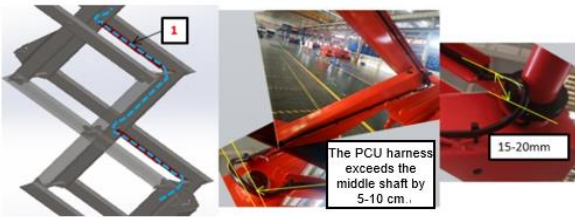

Fig. 4.25 Installation of second layer pipeline
layer inner frame, as shown in Fig. 4.25;
- f) When the PCU harness is wound around the arc to the wiring plate, the harness needs to be close to the round pipe at the rear end of the inner frame, and wound inside the fork round steel, as shown in figure 4.25, the wiring harness is naturally wound around the arc on the inside, and the distance from the ring is 15-20mm/0.59-0.79in;